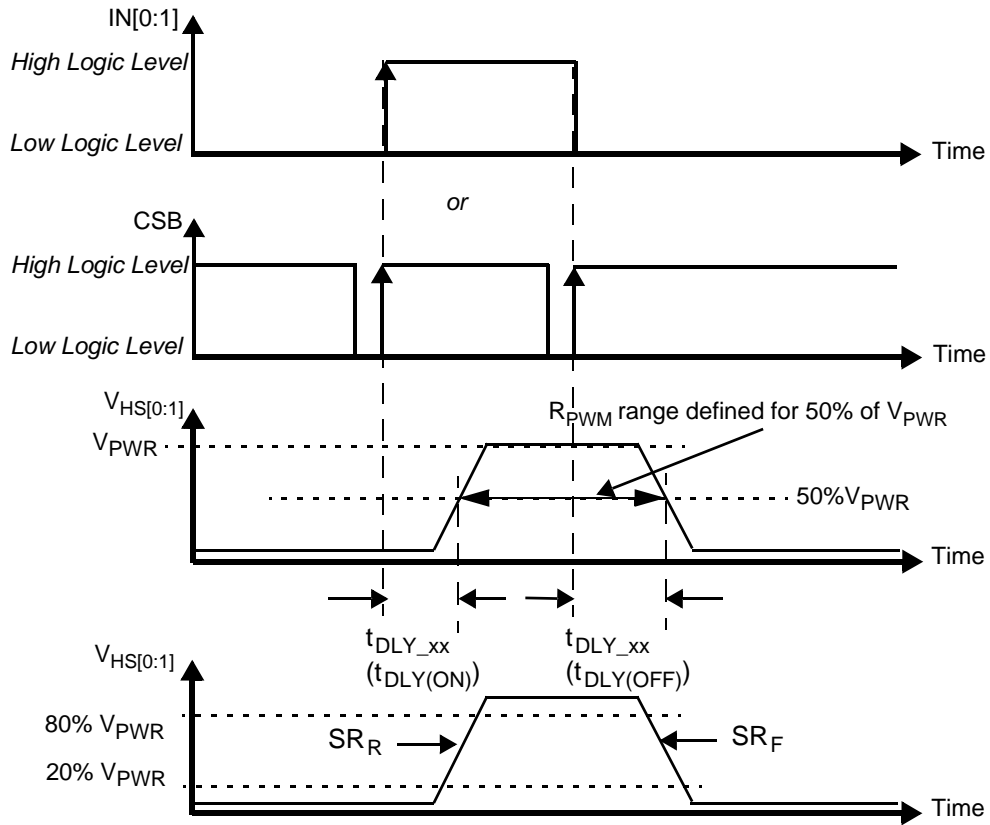
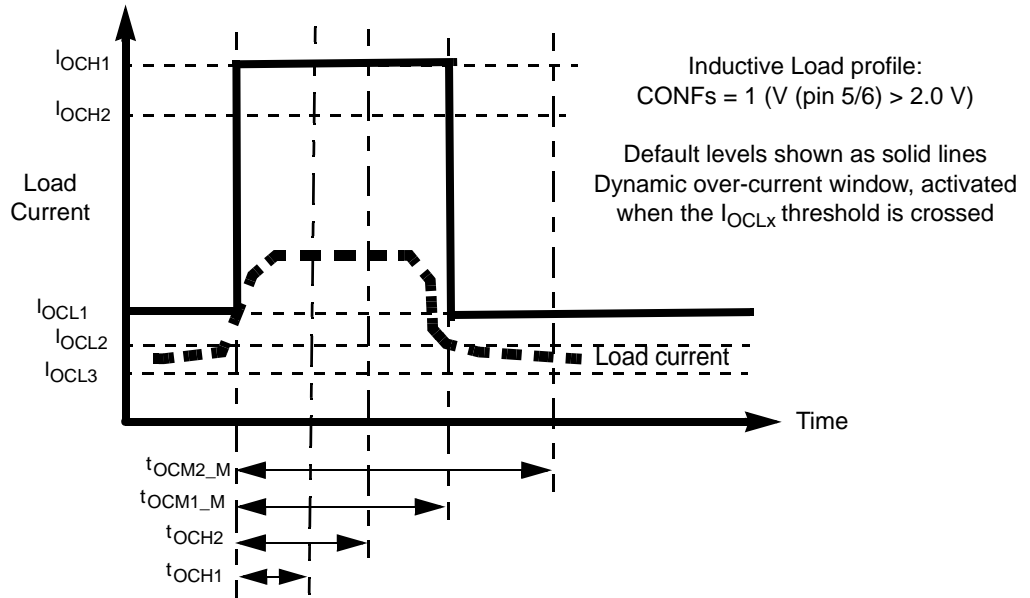
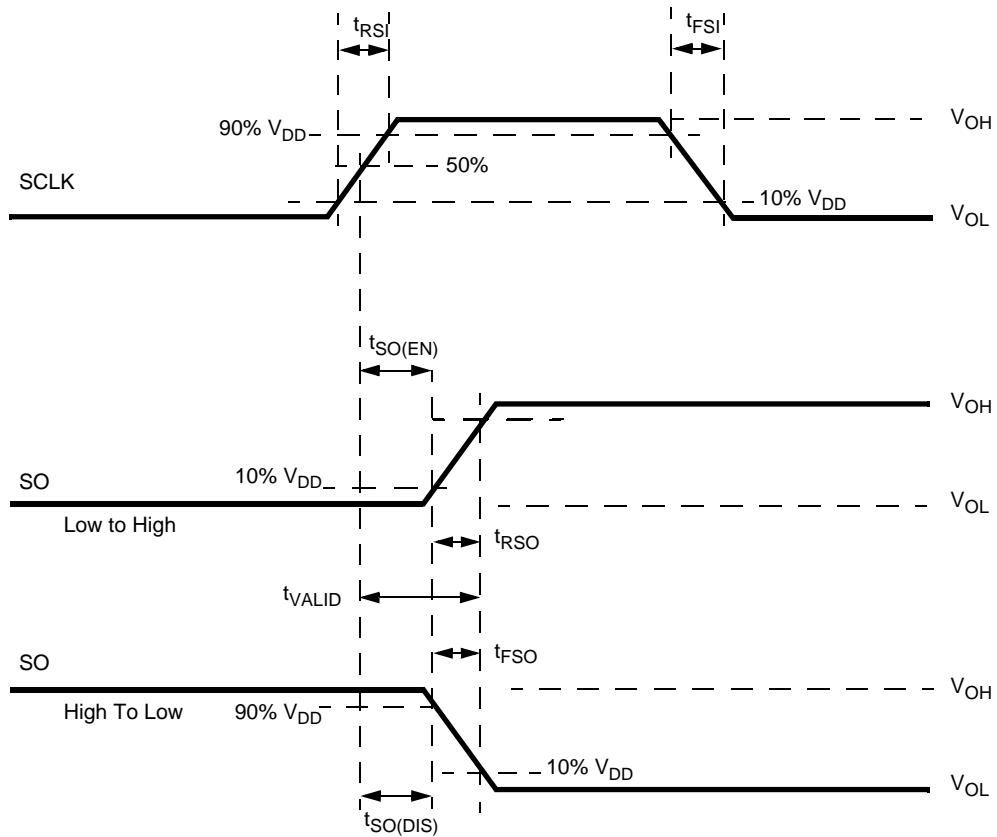

Figure 4. Output Voltage Slew Rate and Delay
Figure 6. Over-current Protection Profile for Applications with Inductive Loads (DC motors, solenoids)
Figure 8. Timing Diagram for Serial Output (SO) Data Communication
27. Rising and Falling edge slew rates specified for a 20 to 80% voltage variation on a 5.0  $\Omega$  resistive load (see Figure 4).
29. Rising and Falling edge slew rates specified for a 20 to 80% voltage variation on a 5.0  $\Omega$  resistive load (see Figure 4).
31. Time required to switch off the channel after detection of over-temperature (OT), over-current (OC), SC or UV error (time measured between start of the negative edge on the FSB pin and the falling edge on the output voltage until  $V(HS[0:1]) = 50\%$  of  $V_{PWR}$ ).
32. Settling time ( $= t_{CSNSVAL\_xx}$ ), SYNC output signal delay ( $= t_{SYNCVAL\_xx}$ ) and Read-out delay ( $= t_{SYNREAD\_xx}$ ) are defined for a stepped load current ( $100\text{ mA} < I(LOAD) < IOCLX\text{ A}$  FOR  $CSNS\_RATIO\_S = 1$ , AND  $300\text{ mA} < I(LOAD) < IOCLX\text{ A}$  FOR  $CSNS\_RATIO\_S = 0$ ). (see Figure 8 and Output Current Monitoring \(CSNS\))
The CS pin allows independent current monitoring of channel 0 or channel 1 up to the steady-state over-current threshold. It can also be used to sense the device temperature. The different functions are selected by setting bits CSNS1\_en and CSNS0\_en to the appropriate value (Table 21). When the CSNS pin is sensed during switch-off in the (optional) track & hold mode (see Figure 8), it will output the scaled value of the load current as it was just before turn-Off. When several devices share the same pull-down resistor, the CSNS pins of devices, the current of which is not monitored, must be tri-stated. This is accomplished by setting CSNS0\_en = 0 and CSNS1\_en = 0 in their GCR register (Table 11). Settling time ( $t_{CSNSVAL\_XX}$ ) is defined as the time between the instant at the middle of the output voltage's rising edge ( $HS[0:1] = 50\%$  of  $V_{PWRR}$ ), and the instant at which the voltage on the CSNS pin has settled to  $\pm 5.0\%$  of its final value. Anytime an over-current window is active, the CSNS pin is disabled (see Over-current Detection on Resistive and Inductive Loads). The current and temperature sensing functions are unavailable in Fail-safe mode and in Normal mode when operating without the  $V_{DD}$  supply voltage. In order to generate a voltage output, this pin requires a pull-down resistor ( $R(CSNS)=1.0\text{ k}\Omega$  typ. and  $470 < R(CSNS) < 10\text{ k}$ ). When the current sense resistor connected to the CSNS pin is disconnected, the CSNS voltage is clamped to  $V_{CL(CSNS)}$ . The CSNS pin can source currents up to about 5.6 mA.
edge of CSB. The SO output driver is enabled when CSB is logic [0]. CSB should transition from a logic [1] to a logic [0] state only when SCLK is at logic [0]. CSB is internally pulled up to  $V_{DD}$  through  $I_{UP}$ . (see Figure 6 and Figure 8)